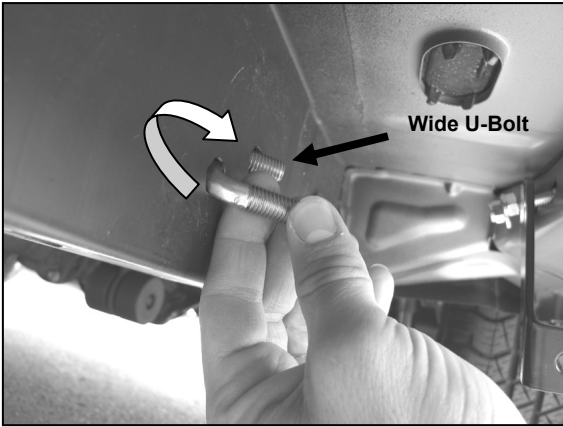

Figure 2
3. Hold longer threaded end of a Wide U-Bolt and carefully insert shorter end of U-Bolt into frame through one of the two factory holes on the frame. Rotate U-Bolt around until the shorter threaded end comes out trough the other factory hole (Figure 2).